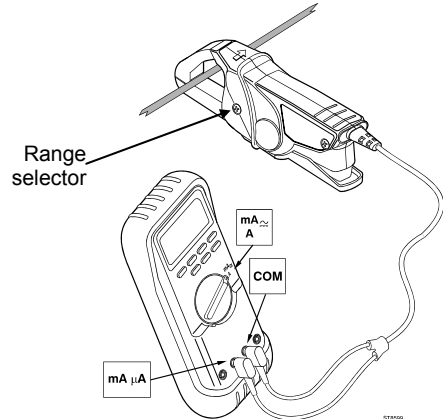
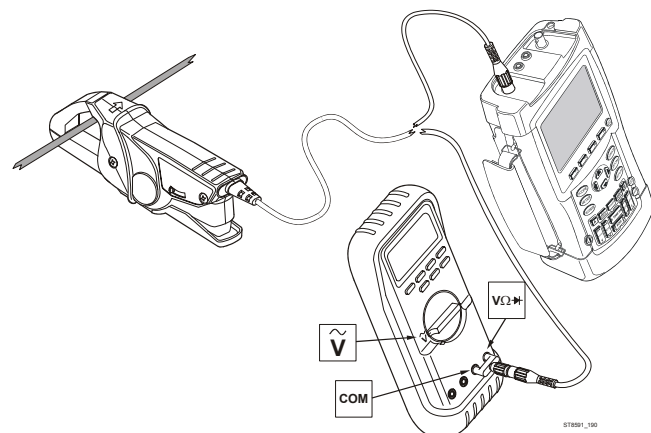

Figure 2. Measurement Setup for i200
Figure 3. Measurement Setup for i200s
1. Connect the i200/i200s Current Clamp to the desired input on the measuring instrument. i200: See Figure 2. i200s: See Figure 3. When using a multimeter, use the Dual Banana to BNC Adapter Clamp to the input.